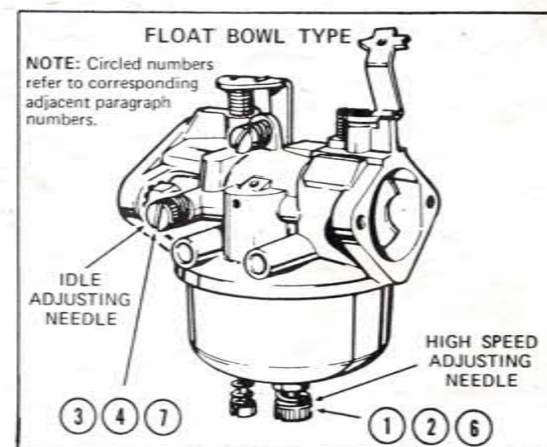

Figure 17
1. Close "high speed adjusting needle" **finger tight only** by turning clockwise. Do not force as this will damage carburetor internal seat. (Fig. 17)
3. Close "idle adjusting needle" **finger tight only** by turning clockwise. Do not force as this will damage carburetor internal seat. (Fig. 17)